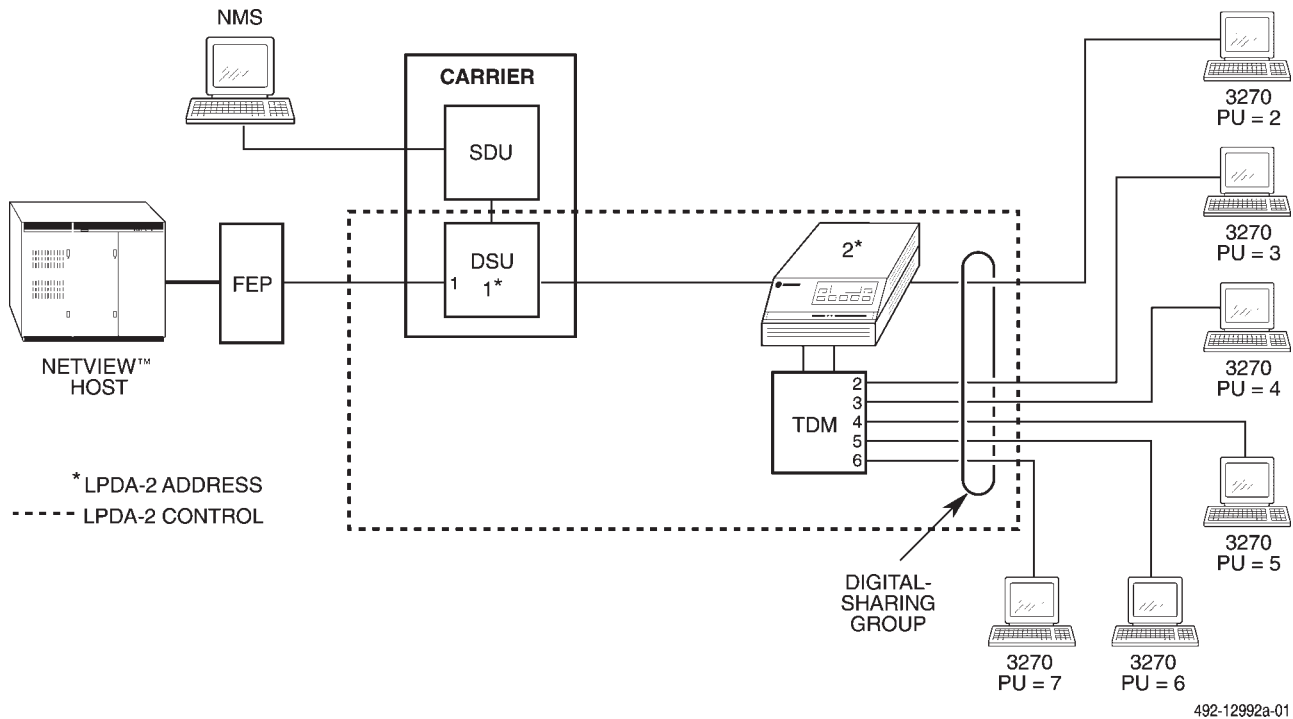
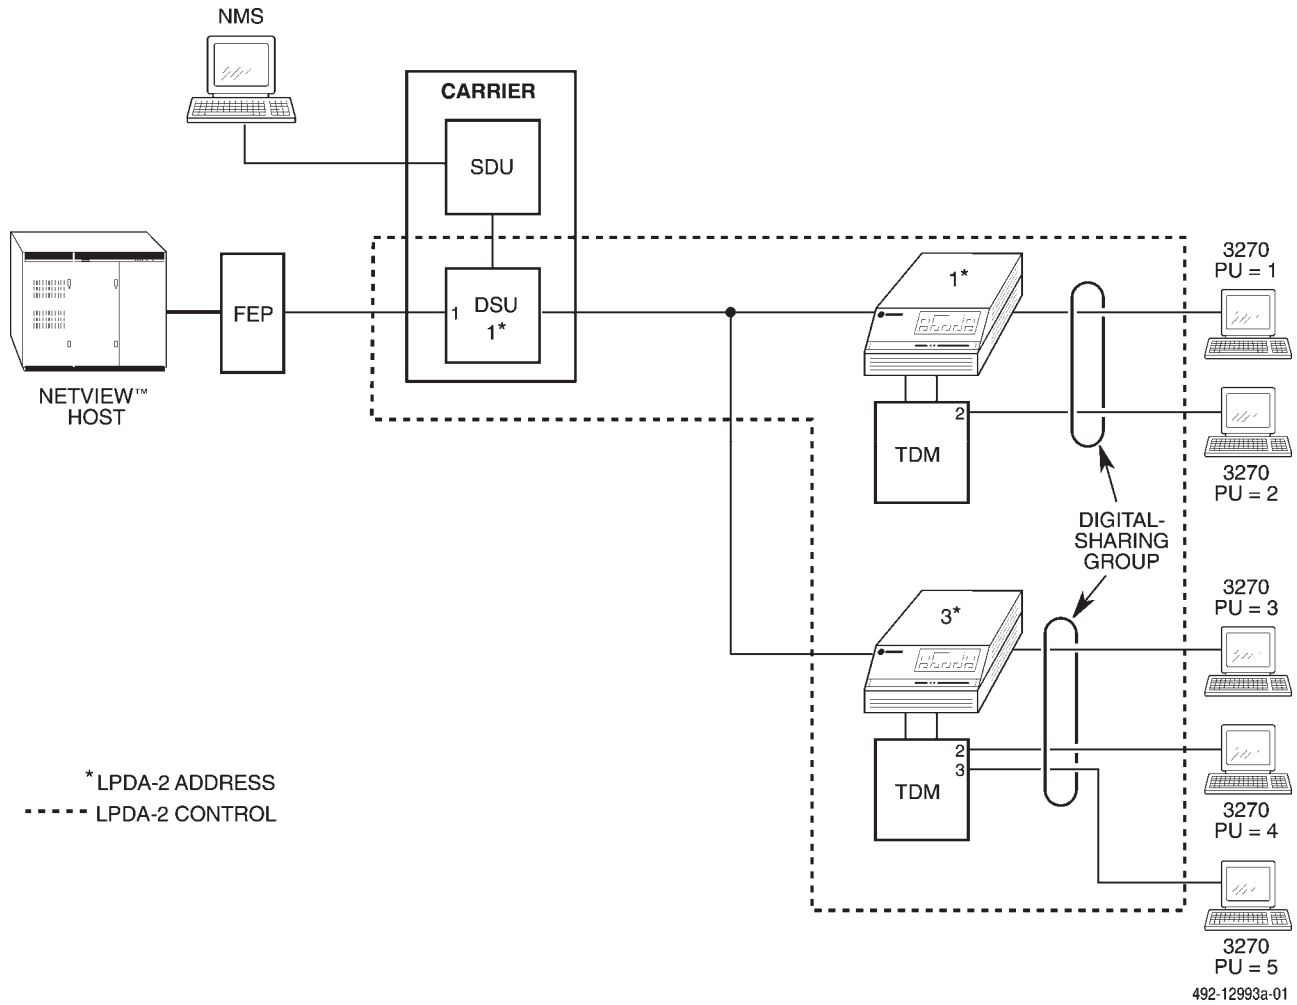

Figure 4-46. Digital Sharing in a Point-to-Point Circuit
Figure 4-47. Digital Sharing in a Multipoint Circuit
5. **Digital Sharing and Multiple DTEs.** When LPDA-2 monitoring is used with digital sharing, a feature available with the TDM or MCMP option,* the DTE connected to the digital-sharing group must use consecutive PU addresses (see Figures 4-46 and 4-47 in the *Digital Sharing* section in this chapter). The digital-sharing group must start with Port 1 for the DSU to support LPDA-2 monitoring on each port of the digital-sharing group. The LPDA-2 address is set to the lowest PU address. The DTE with the lowest PU address is then connected to Port 1. The DTE with the next consecutive PU address is connected to Port 2 and so on. From the NetView operator's perspective, the digital-sharing feature appears as a unique DSU connected to each DTE.
Figures 4-46 and 4-47 show how digital sharing is used with LPDA-2 monitoring. When a digital-sharing group is configured on a tributary DSU, the DSU recognizes multiple LPDA-2 addresses instead of one. The number of addresses is equal to the number of ports comprising the digital-sharing group.
From the NetView operator's perspective, the digital-sharing feature appears as a unique DSU connected to each DTE. The LPDA-2 address is set to the lowest PU address. The DTE with the lowest PU address is then connected to Port 1. The DTE with the next consecutive PU address is connected to Port 2 and so on, as shown in Figures 4-46 through 4-49.
In Figures 4-46 and 4-48, directing a DSU/CSU and Line Status command to LPDA-2 Address 4 will report the DTE status of Port 3. In Figures 4-47 and 4-49, directing a DSU/CSU and Line Status command to LPDA-2 Address 4 will report the DTE status of Port 2 of the second tributary DSU.